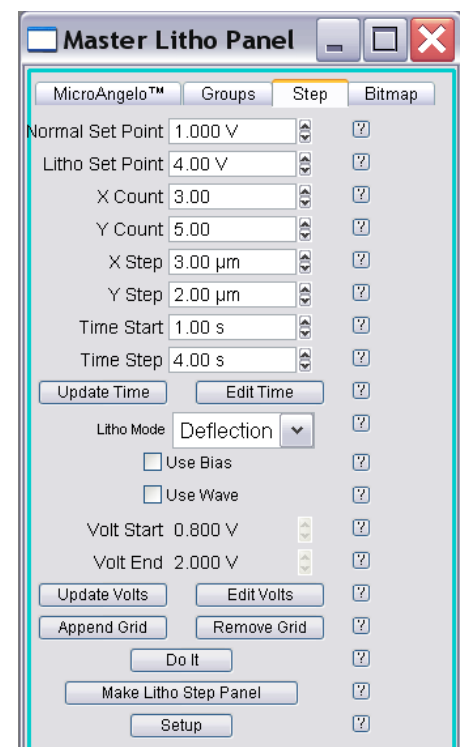
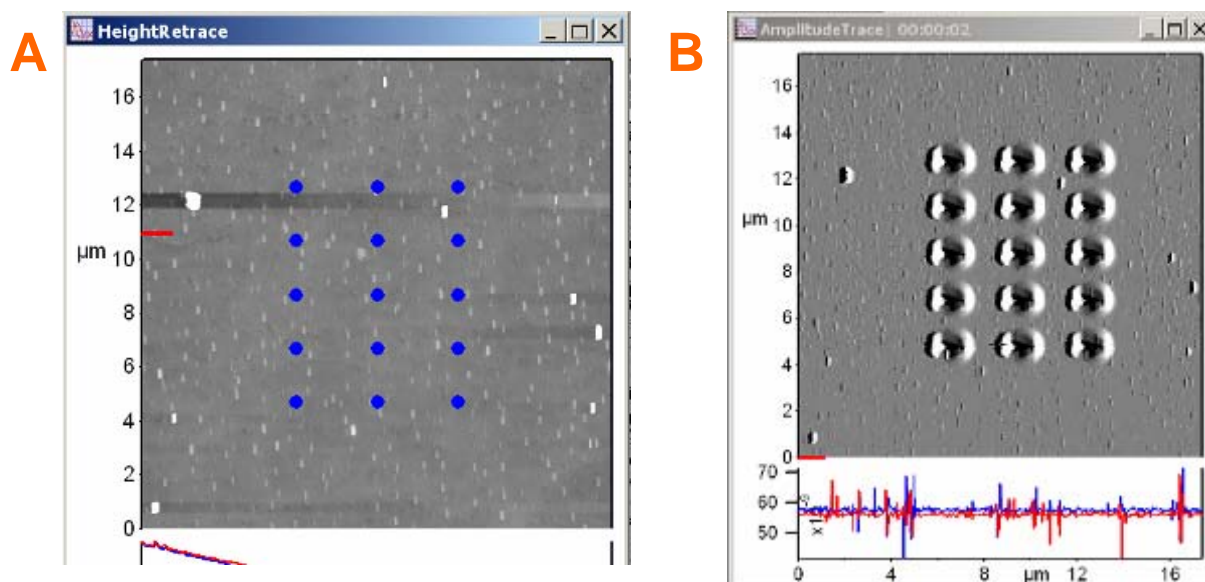

Figure 10.10: Step tab
Figure 10.11: A) array pattern created using the steps tab; B) resulting indent pattern array on polycarbonate.
▪ Arrays can be created using the **Steps** tab (see Figure 10.10 below); this tab can have the tip dwell at each subsequent array point for a user defined time, or apply a different force. Both functions can be systematically increased, or custom values can be manually entered.
- In the example shown in Figure 10.11, a 3 x 5 array was created using the parameter values shown in Figure 10.10. Large forces were applied using a rather dull tip, resulting in the poor quality image below.